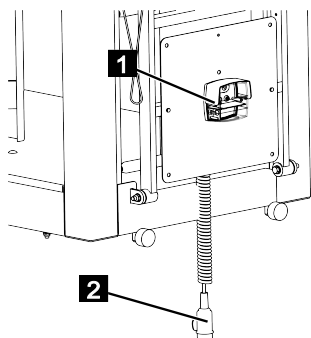

Fig. 66
5. Screw the supplied lighting system (Fig.66/1) to the working basket and connect the connector of the spiral cable (Fig.66/2) to the 12V socket of the truck.